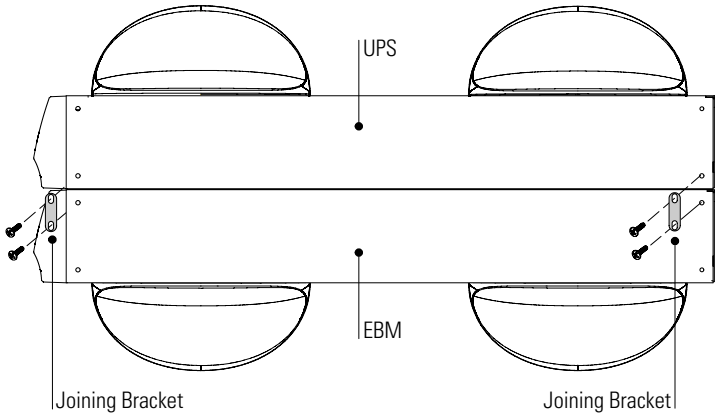

Figure 13. Installing the Joining Brackets (Top View with Pedestals)
- 10. Align each joining bracket with the adjacent corner screw holes and secure with the supplied screws (see Figure 13).